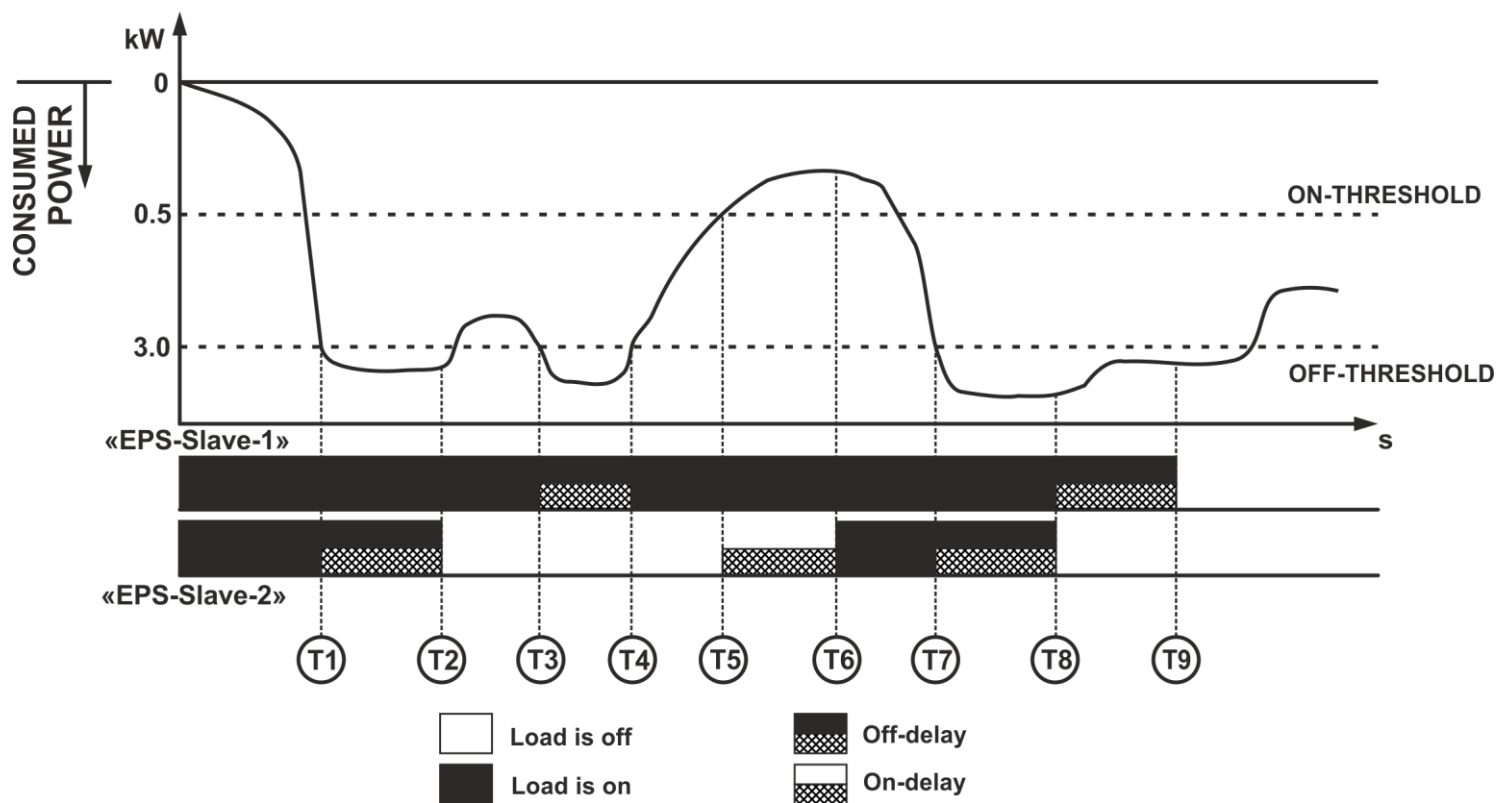

Fig. 16 – Operation in the power limiting relay mode
The «EPS-Master» constantly measures the values of the **generated** and **consumed** power and, depending on the result of measurement, controls the connected «EPS-Slave» according to the following algorithm, shown in Fig. 16:
- 60 s time starts counting (parameter «Off-delay», time T1 or T7 – Fig. 16);